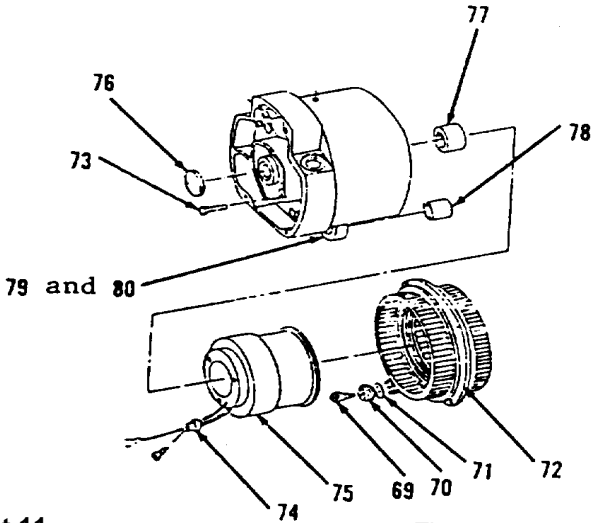

Figure 4-10.
- 1. Using suitable driver and hammer, install bushing (78) to housing (80, Figure 4-10), if removed.
- 2. Pack new bearing (77) with clean lubricant.
- 5. Install new plug (76, Figure 4-10), tapping evenly with soft hammer.
- 6. Using lubricant, lubricate grommet (74) lightly.
- 7. Position field coil (75). Pull field coil (75) wires through bore in housing (80). Seat grommet (74) in hole and align field coil (75) mounting holes.
- 8. Install three screws (73).
- 9. Install new insulator (71), new grommet (70) and three new terminals (69) to stator (72), if removed.
- 10. Using lubricant, lubricate new grommet (70) lightly.
- 11. Position stator (72) aligning matchmarks.
- 12. Install stator (72) by pulling stator (72) wires through bore in housing (80). Seat new grommet (70) in bore, if removed.